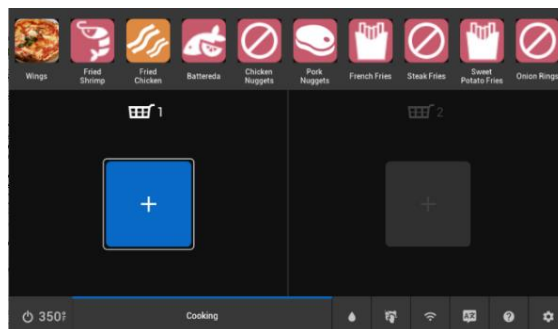

**Figure 15 - Cook Lane / Rack Number**
- Choose the number of desired lanes on the **Cook Lane/ Rack Number** pulldown or “Off” **Figure 15**